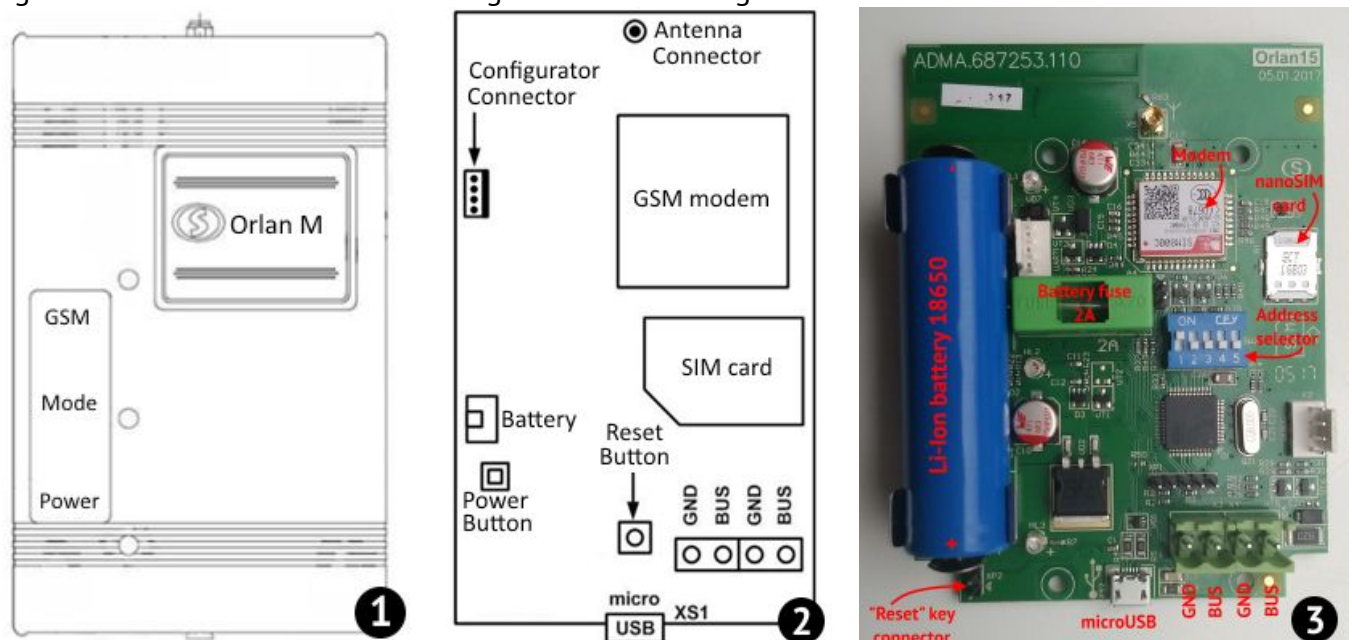
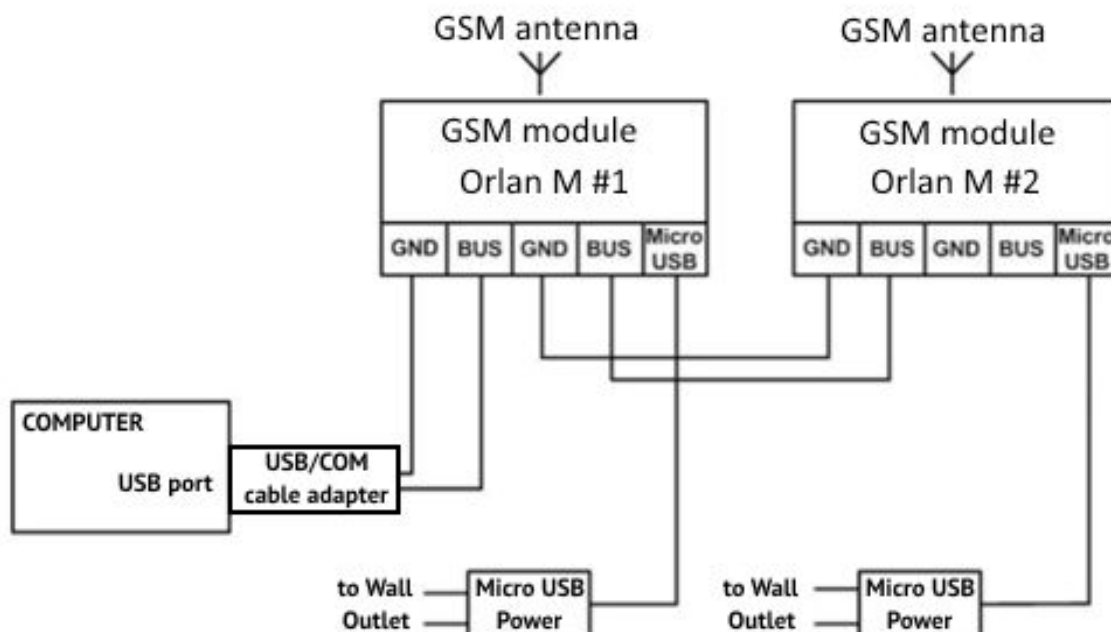

Figure 4. "Orlan-M" module (1) and its "Orlan-M11" (2) or "Orlan-15" (3) PCBs
Figure 5. "Orlan-M" module connection diagram
The receiving part of "Orlan" CMS consists of two separate "Orlan-M" wall modules with GSM modems as shown in Figure 4. "Orlan-M" module has the "Orlan-M11" or "Orlan-15" PCB with a power supply connector, connectors for inter-module connections and PC interfacing (through the special USB cable adapter), remote antenna connector and the configuration connector as shown in Figure 4. The module connection diagrams shown in Figure 5.
6. Connect the Orlan-SMS USB cable to the configuration connector of "Orlan-M" module (see. Figure 4, "Orlan-M11" PCB). The module shall be in the open position;
- down **Reset** button (see. Figure 4) for 2 seconds;
- To configure the "Orlan-M" module **based on "Orlan-15" PCB**, the hardware address selector is used. The required address of the device on the bus should be set in binary code in accordance the Table 1 while the module's **power is off** (see Figure 4, "Orlan-15" PCB).
- Apply power to the modules by pressing the Power button (see. Figure 4);
The board of "Orlan-M" module has three LEDs: red, green and blue (see. Figure 4).